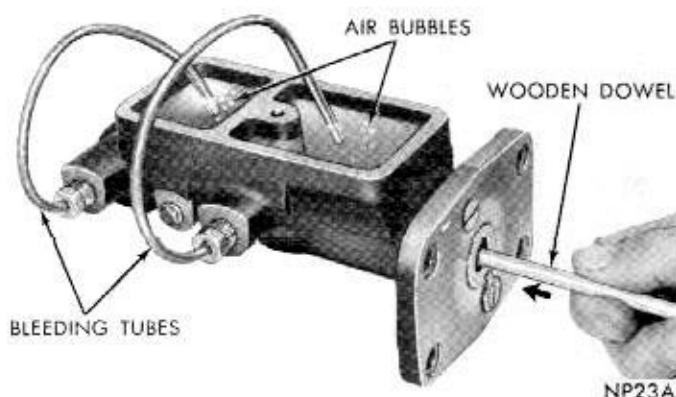

Fig. 7—Bleeding Master Cylinder
(1) Clamp master cylinder in a vise and attach bleeding tubes Tool C-4029 (Fig. 7).
(2) Fill both reservoirs with approved brake fluid.
(3) Using a wooden stick or dowel (power brake equipped vehicles) depress push rod slowly and allow the pistons to return under pressure of springs. Do this several times until all air bubbles are expelled (Fig. 7).
(4) Remove bleeding tubes from cylinder and install